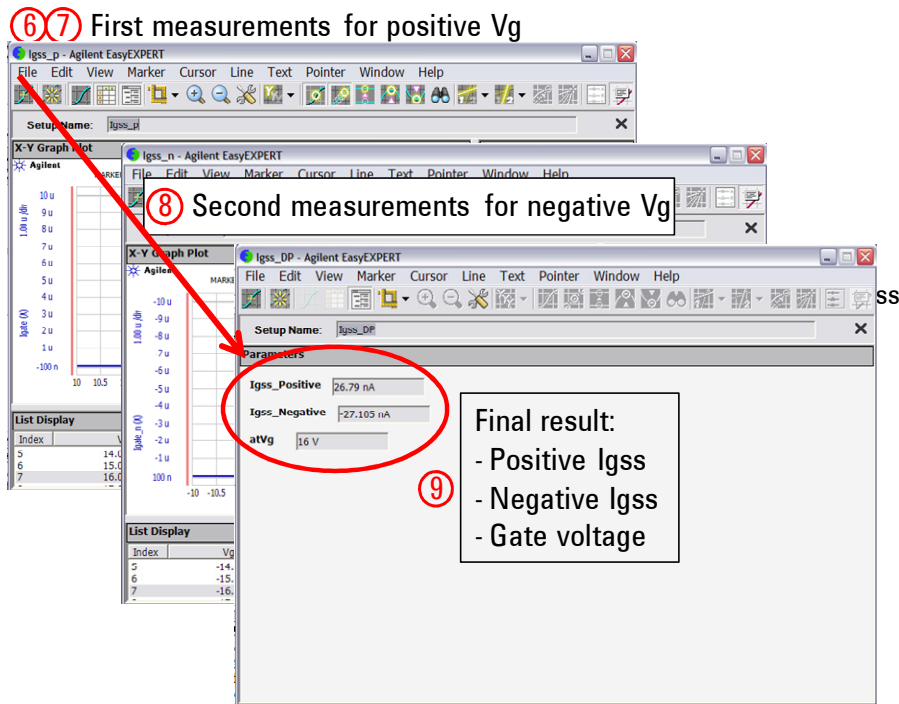

Figure 3-32. Example of Igss\_DP Application Test results.
Step 9. Finally the extracted  $I_{gss}$  for both polarity are displayed in the third windows as you can in figure 3-32.
Note that the measurement graph in figure 3-32 appears when the measurements are executed, but only the final result data is saved in Result field.